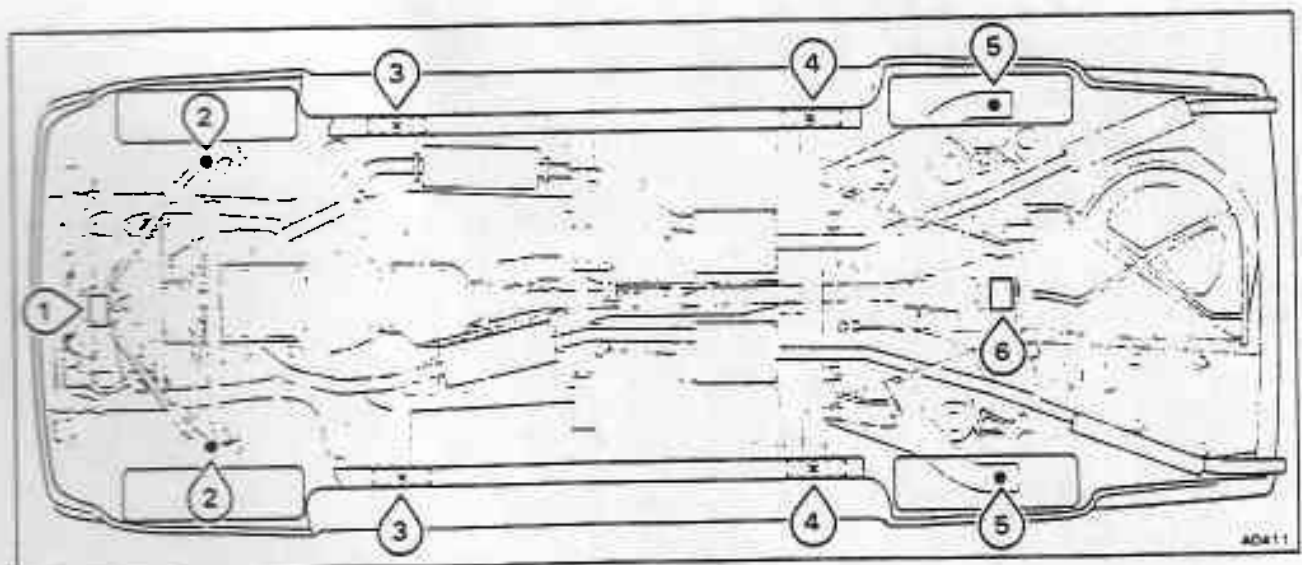
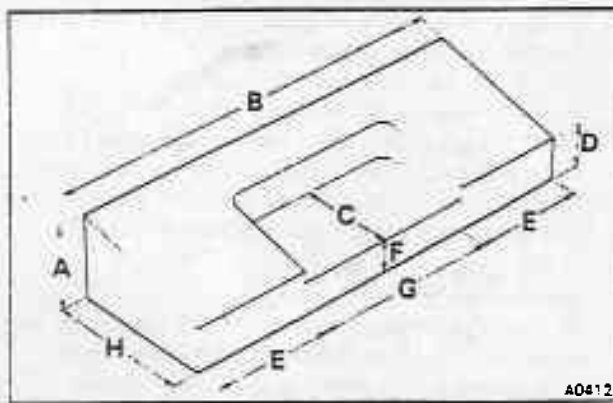

Fig. A7-1 Car jacking positions and support locations
Fig. A7-3 Hardwood sill block
To jack up the front of the car, position a trolley jack under the front pivot mounting for the lower triangle levers on the sub-frame (see fig. A7-1, item 1).
Alternatively, jack up the car using one of the two front jacking points situated on the car underbody (see fig. A7-1, item 3), utilizing the car jack.
To jack up the rear of the car, position a trolley jack under the centre of the final drive casing (see fig. A7-1, item 6), not on the final drive crossmember. Ensure
Alternatively, jack up the car using one of the two rear jacking points situated on the car underbody (see fig. A7-1, item 4), utilizing the car jack.
When jacking up the rear of the car to support on stands and/or blocks, follow the procedure described previously, then remove the road wheels. Place axle stands under the positions shown in figure A7-1, item 5.
When jacking up the front of the car, follow the procedure described previously, then place axle stands under the positions shown in figure A7-1, item 2. Remove the road wheels if necessary.
If all the car is to be supported on stands and/or blocks, the car body should also be supported using wooden sill blocks, etc., placed under the jacking points of the car (see fig. A7-1, items 3 and 4). Refer to figure A7-3 when producing these wooden sill blocks.